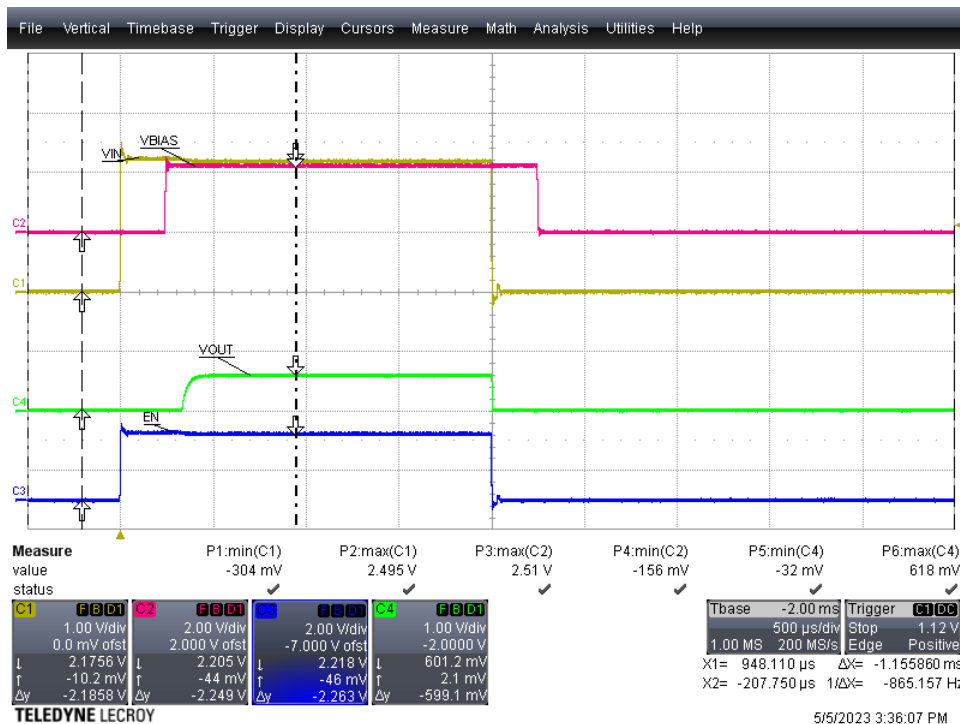

Figure 2-1. TPS7A15EVM-096 Turn On
Alternatively, by connecting an external function generator to TP1 (EN) and a nearby GND post (J11), the user can enable or disable the TPS7A15 LDO after VIN is applied. Figure 2-1 shows the result of the TPS7A15EVM-096 during turn on. The blue trace is the enable voltage, and the red trace is the output voltage.